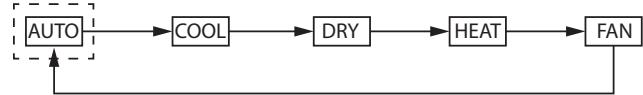

Fig. 11 — Mode Sequence
**Setting the Mode** — Pressing MODE  once or more than once sets the function in the sequence shown in Fig. 11.